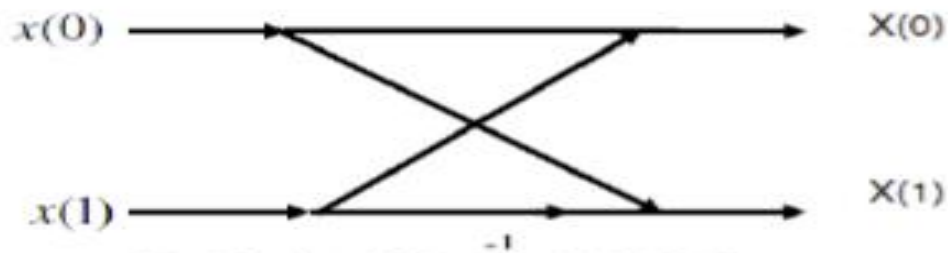

Fig 6.2: Signal Flow graph for N=2
- Consider an example of computation of 2 point DFT. The signal flow graph of 2 point DITFFT Computation is shown in fig 6.2. The input / output relations is as in eq (6.3).